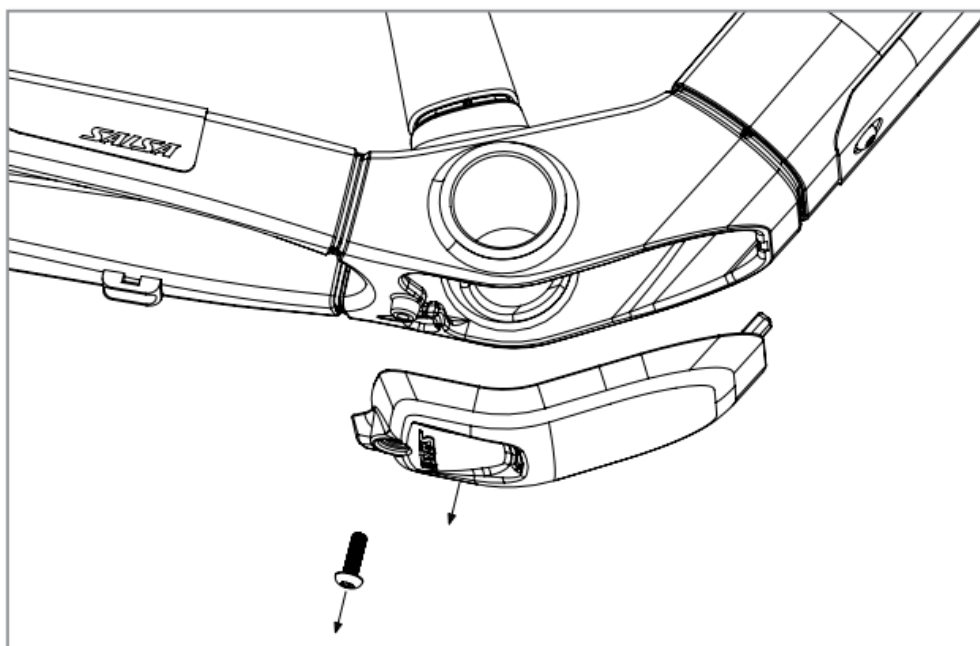

Figure 8
4. Use a T25 Torx wrench to remove the bolt and hatch. (Figure 8)